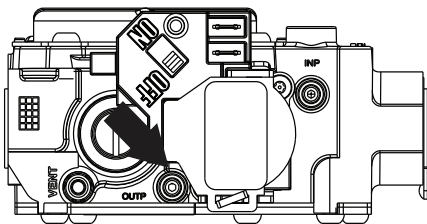

Fig. 10 – Control Switch to OFF
- Turn the control switch on the gas control to the OFF position and wait five minutes (see Fig. 10). Then smell for gas, including near the floor. If you smell gas, STOP! Follow “B” on furnace label. If you don’t smell gas, go to next step.
5. Turn control switch on the gas control to “OFF” position (see Fig. 10).